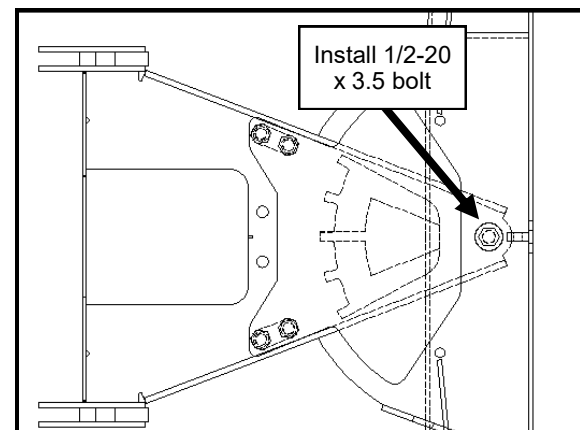

Fig. 3.2—A-Frame and Trip Frame
- 3.2** Per fig. 3.2, slide the A-Frame into the trip frame pocket, aligning the 1/2" bolt holes on both assemblies. Install the 1/2-20 x 3.5" hex head bolt with a 1/2" washer under the head of the bolt. Then thread on the lock nut. Tighten until all slack is removed from the bolt while the A-frame is allowed to rotate freely in the trip frame pocket.